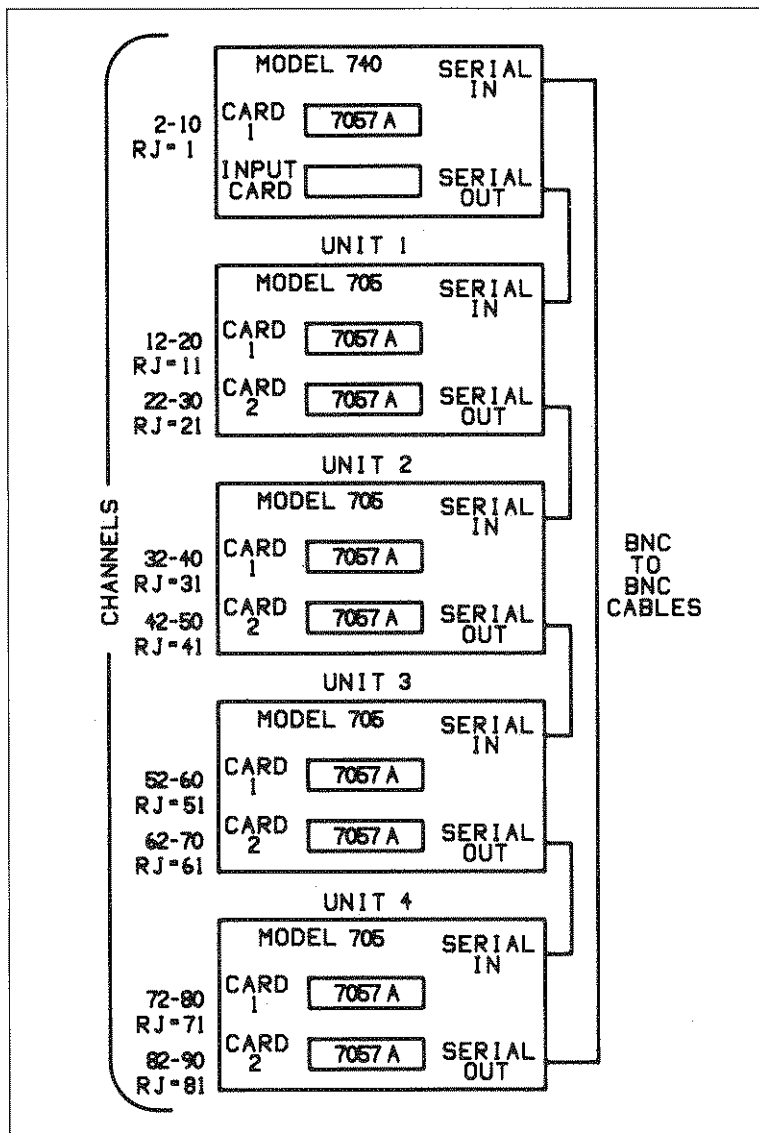
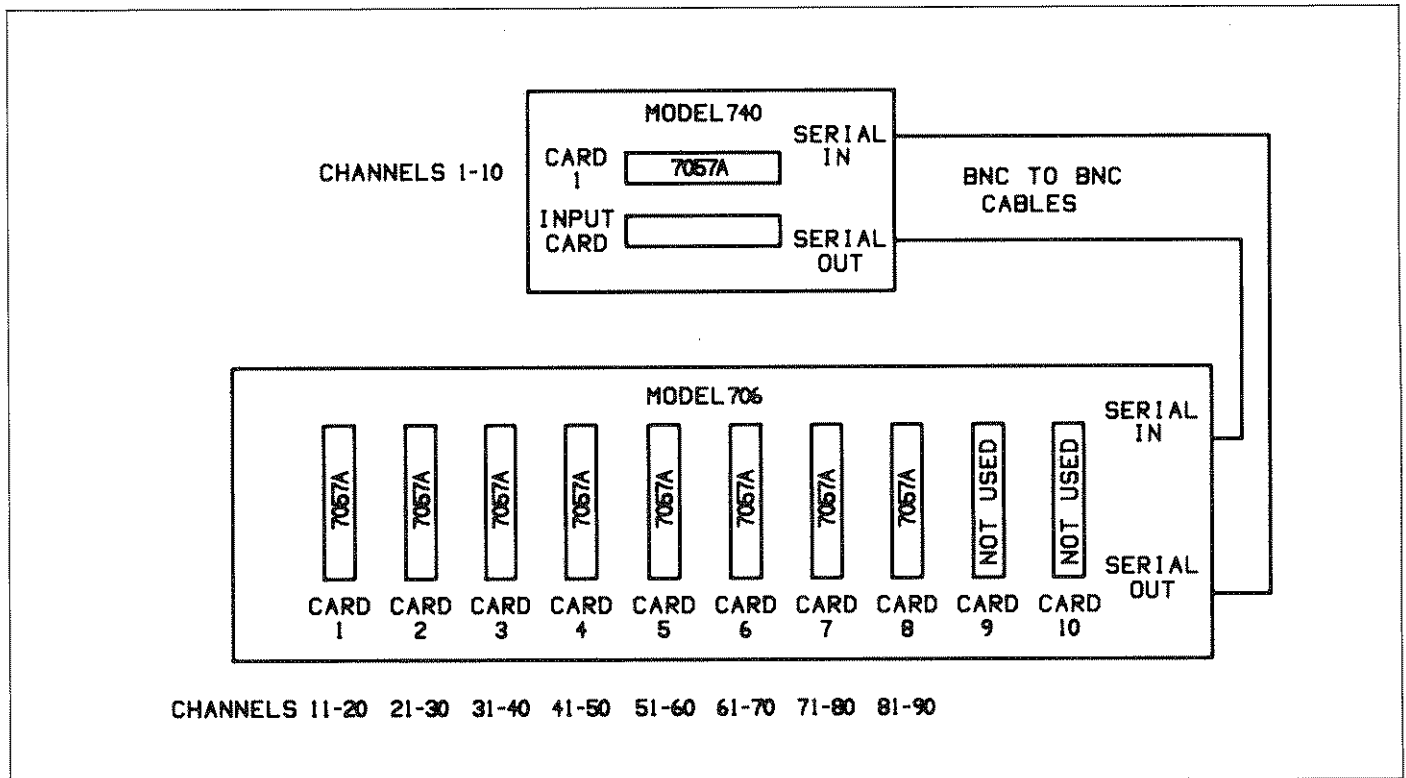

Figure 2-7. Daisy Chaining Model 705's
Figure 2-8. Daisy Chaining Model 706
**SERIAL OUT**—This BNC connector completes the daisy chain configuration. SERIAL OUT is connected to SERIAL IN of the Model 705 or 706. Figure 2-7 and 2-8 illustrates a daisy chain configuration.
In general, the setup to use up to eight additional scanner cards consists of connecting the thermocouples to the scanner cards, installing the cards in the Model 705s or a Model 706, and connecting the outputs of the scanner cards to the input card of the Model 740. The equipment is then serially connected together as shown in Figure 2-7 or Figure 2-8.
- A. If using a Model 706, connect the scanner to the Model 740 as shown in Figure 2-8.
- B. If using Model 705(s), connect the scanner(s) to the Model 740 using Figure 2-7, which shows four scanners, as a guide. Connect SERIAL OUT of the last scanner to SERIAL IN of the Model 740.
2. Channel number assignments are dependent on the position of the scanner cards in the system. Figures 2-7 and 2-8 show the channel assignments. If a card is not installed, those 10 channels will be unavailable to the Model 740.